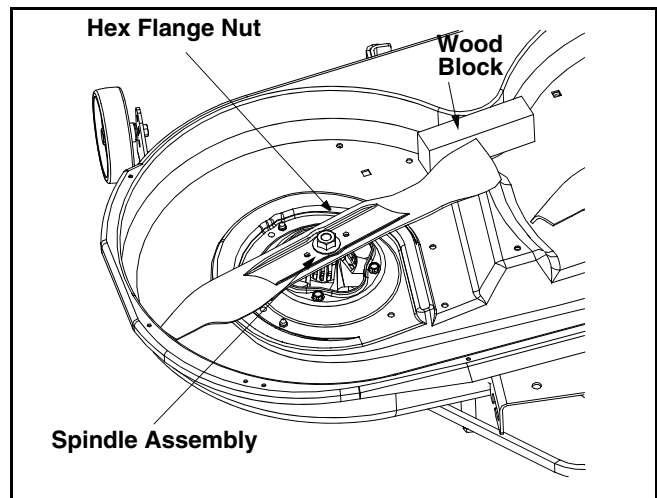

Figure 19
- Place a block of wood between the center deck housing baffle and the cutting blade to act as a stabilizer. See Figure 19 .
- Use a 15/16" wrench to remove the hex flange nut that secures the blade to the spindle assembly. See Figure 19.